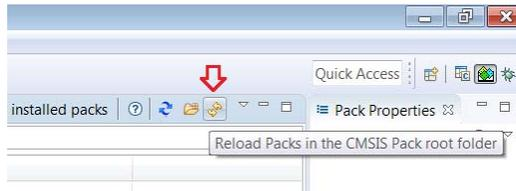

Figure 5. Reload Packs Icon
6. After installation, click on the **Reload Packs** icon (see Figure 5) to update your list of installed packs.